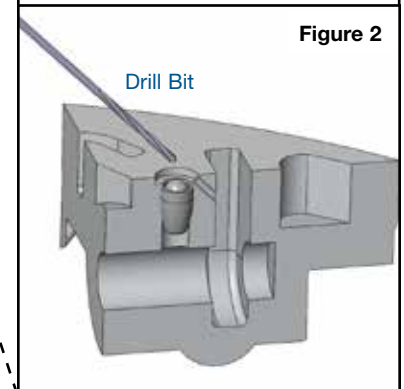

Figure 2
- c. Using included Sonnax drill bit, bore a new orifice from the cup plug bore to inboard balance port at an approximate 45° angle. Starting drill bit on countersunk surface of cup plug bore works best (**Figure 2**).